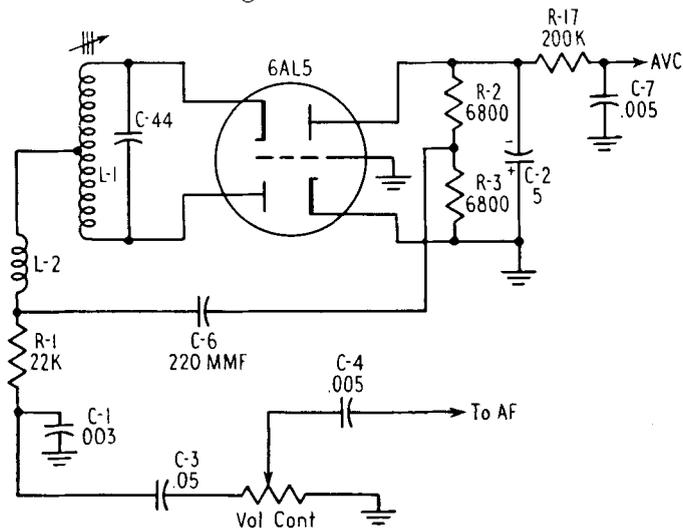

FIG. 25-7. Ratio detector of the basic receiver.
**The ratio detector.** The ratio detector of our typical set is shown in Fig. 25-7. The tube used is a 6AL5 twin diode with a grounded shield